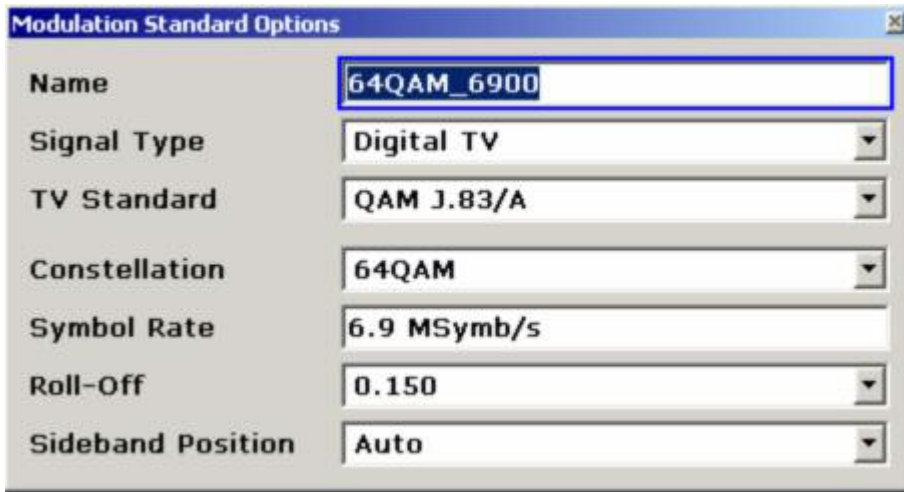

Fig. 2–48 **Modulation Standard Options** dialog box for digital TV
- The channel table references modulation standards by their **Name**. Its name (see Fig. 2–48) should comprise information about the used constellation and the symbol rate, e.g. "64QAM\_6900".